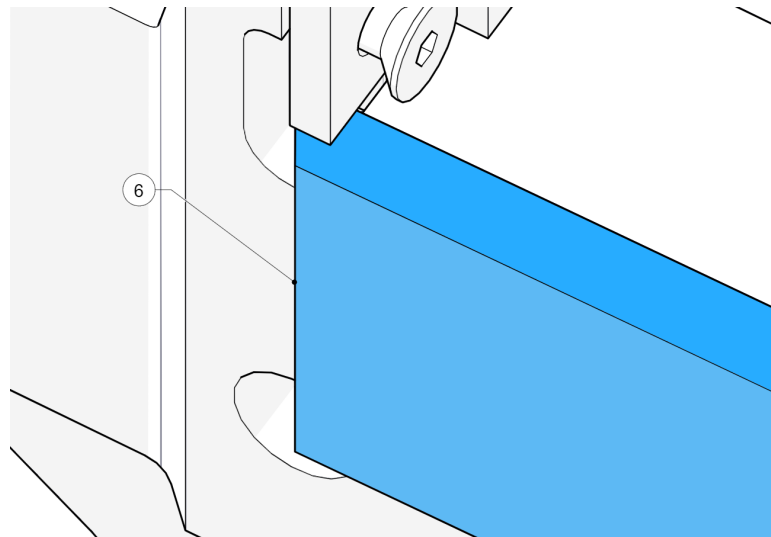

Figure 63 - Anvil in vertical seat
16. Push the anvil into the seat under the side anvil (6, Figure 63).